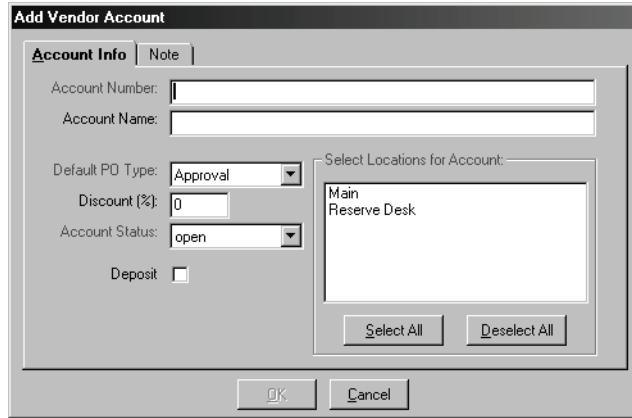

Figure 4-16. Add Vendor Account dialog box - Account Info tab
3. On the **Account Info** tab (Figure 4-16), enter the vendor-assigned account number for your institution in the **Account Number** field.